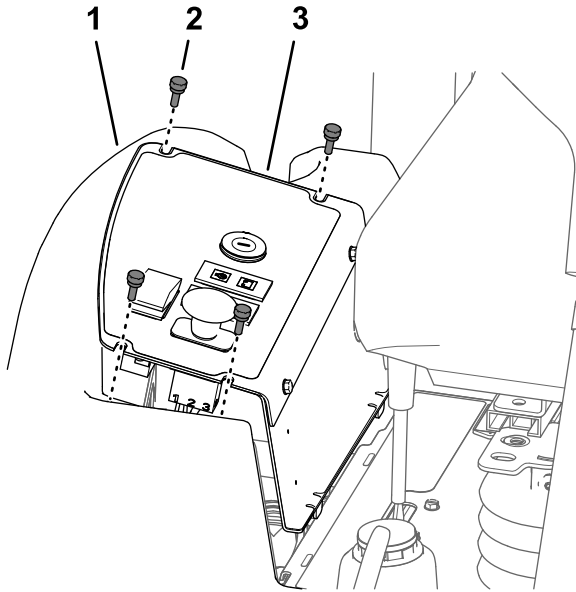

Figure 52
1. Remove the 4 thumb screws that secure the control-panel plate to the fuel tank (Figure 52).
2. Lift the control-panel plate (Figure 52).
3. Align the slots in the top of the control-panel plate with the holes in the flange of the fuel tank (Figure 52).
4. Assemble the control panel plate to the flange of the fuel tank with the 4 thumb screws (Figure 52) that you removed in step 1 of Removing the Control-Panel Plate \(page 48\).